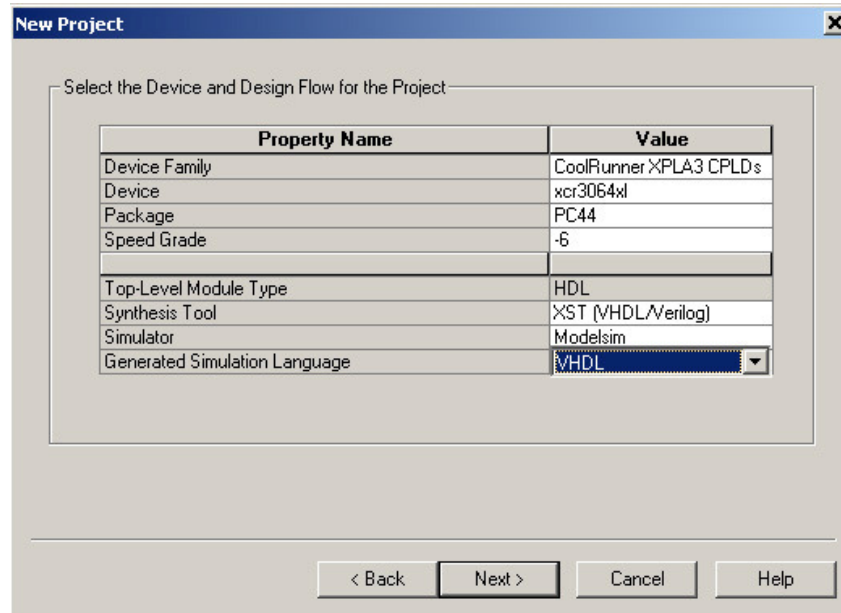

Figure 5; Creating the project.
2. Create counter project; In the Project Navigator, select **File** → **New Project** and follow the same procedure as in previous labs. Setup project options as in figure 5. Click **OK**.
- Components instantiations; once the components are declared, they must be instantiated. This means the connections between components and/or signals inside the system must be declared. The declaration area for components instantiations is under the comment – *Components Instantiations* – in the disp\_controller.vhd file. Use the inverter instantiation as an example. Use the block diagram in figure 5 as a map to complete the connections.